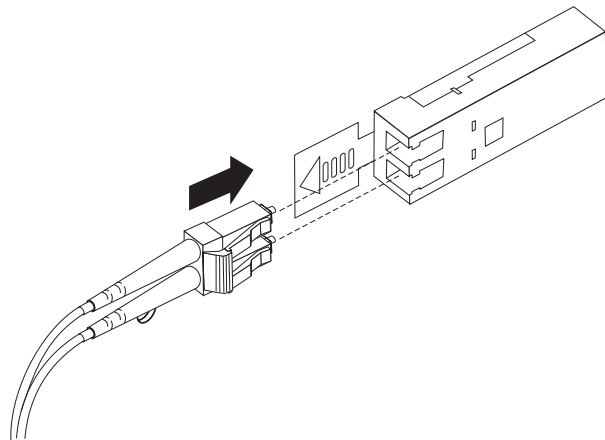

Figure 21. Inserting an LC-LC Fibre Channel cable into an SFP module
4. Carefully insert this end of the LC-LC cable into an SFP module that is installed in the DS3400. The cable connector is keyed for correct installation. Holding the connector, push in the cable until it clicks into place, as shown in Figure 21.